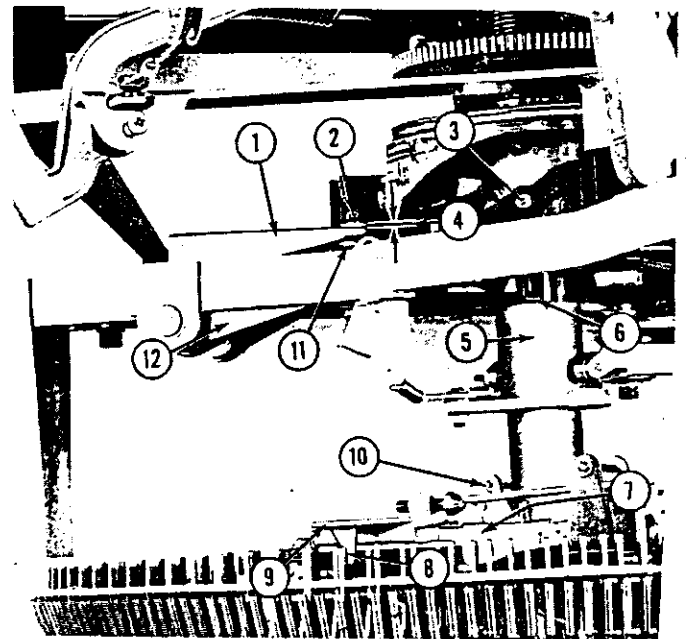

Fig. 18. CANCEL LEVER SETTING
(1) It rests directly on the "actuator arm and link assembly" (Item 10, Fig. 18) of the two selector cranks and positions the tips of the selector arms vertically with relation to the tips of the selector latch pins.
(2) It is free to slide downward when actuated by the cancel arm (Item 6, Fig. 18) to reset latch pins after selection of a record has been completed.
c. Cancel Lever Setting. (Fig. 18)
As stated in paragraph "b, (2)" the sleeve and bushing assembly, (Item 5, Fig. 18) may move freely up and down on the selector shaft. The lower end of the sleeve rests on the "actuator arm and link assembly", which in turn, depresses the two selector cranks (Item 7). Thus, when the "tip and mounting bracket assembly" (Item 9) of one of the selector cranks is engaged with a released selector latch pin as shown at Item 8, the selector crank and tip may be depressed by the cancel lever (Item 1) to reset the latch pins. The pressure of the cancel lever is applied through the "yielding" spring (Item 11) to permit sufficient cancel action plus a reasonable amount of over-travel. An approved method for adjustment of the cancel lever (Item 1) follows: